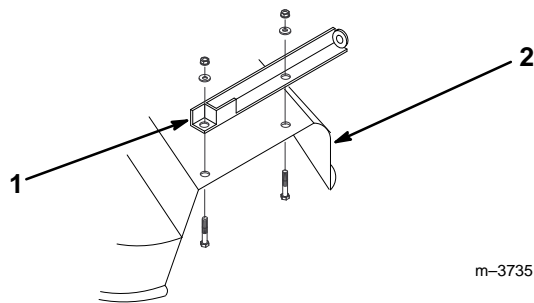

Figure 2
3. Using the bolts, nuts, and washers removed previously, install the mounting bracket with the ring toward the front of the mower (Fig. 2).
Note: The bolts should be inserted so that the bolt heads are on the underside of the mower (Fig. 2).
2. Place the bottom corners of the grass basket door into the slots on the grass basket and secure the door with the latch on top of the grass basket (Fig. 2).